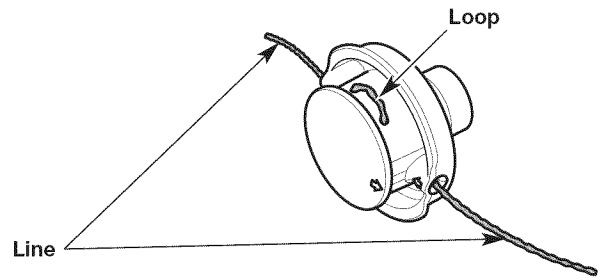

Fig. 15
4. Pull the ends of the line until the line is tight against the cutting head. Make sure the ends of the line are of equal length (Fig. 15). If one end is longer than the other, push the longer end back through the cutting head partway and pull the shorter end out. If necessary, repeat this process until both ends are of equal length.
5. Press the exposed loop of trimming line until it is tight against the cutting head (Fig. 15).